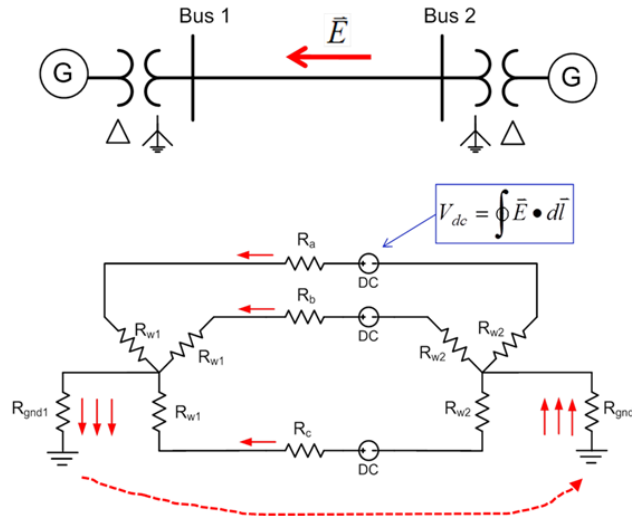

Figure 1: Simple GIC Flow in a Two Generator Example
How the GICs flow in the electric transmission system depends upon the induced dc voltage in the transmission lines and the resistance of the various system elements. Since the GICs are essentially dc, device reactance plays no role in their determination. Values that impact the GICs include the resistance of the transmission lines, the resistance of the coils of grounded transformers, the resistance of the series windings of auto-transformers (and their common winding if grounded), and the substation grounding resistance. This is illustrated for a simple two bus network in **Figure 1**. Note that from a GIC perspective the three phases are in parallel. Since the concept of per unit plays no role in GIC determination, resistance values are expressed in Ohms (Ω), conductance in Siemens (S), current is in amps (A), and the dc voltages are given in volts (V).